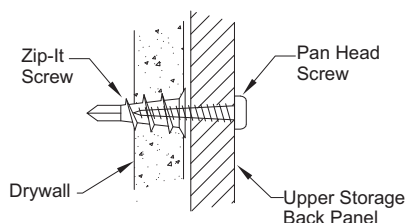
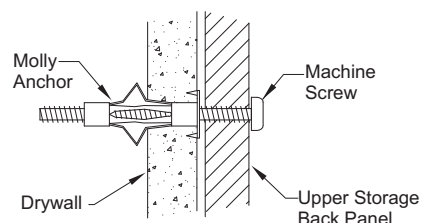

Figure 13B
Figure 13C
If mounting the cabinet to drywall you may use zip-it screws with #8 x 1 1/2" pan head screws (see Figure 13B) or molly wall anchors (see Figure 13C). Drill (2) 3/16" dia. holes thru the Upper Storage back panel into the wall. Remove Upper Storage unit by removing the connecting bolts from the previous step. Drill appropriately size holes in the drywall to accommodate the Zip-It or molly anchors at the hole locations you previously drilled. Insert and secure Zip-It or Molly anchors then reinstall Upper Storage. Screw thru back panel into zip-it or molly screw.